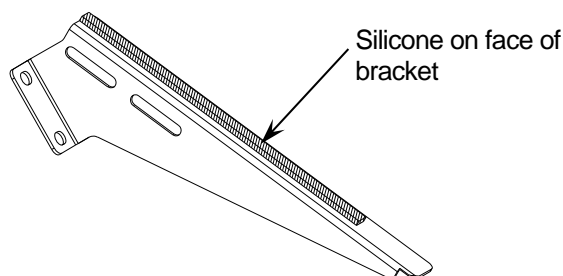

Figure 1
8. Apply supplied silicone generously to brackets along the face where the visor will be resting as shown in Figure 1.